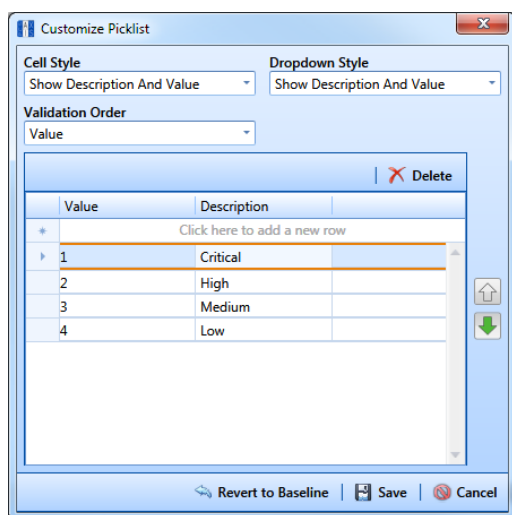

Figure 2-35. Customize Picklist
- 6 Click the edit icon  again for the data entry field converted earlier to a picklist to open the *Customize Picklist* dialog box (Figure 2-35).
- a** Click the message *Click here to add new row* to add an empty row of fields for data entry (Figure 2-35, page 70).